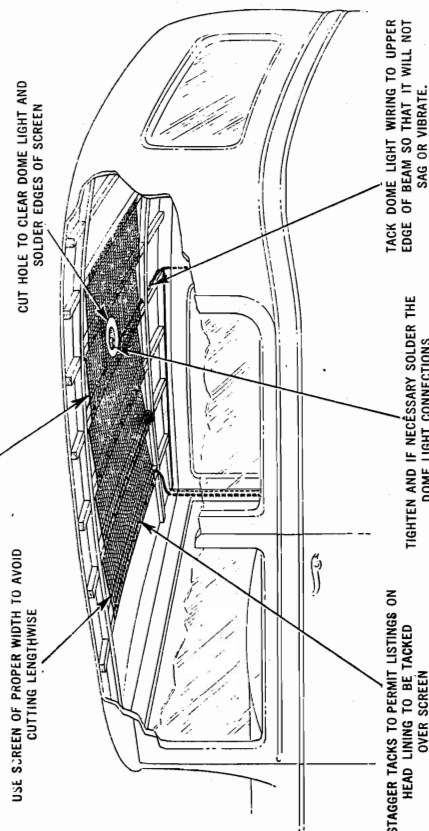

Figure 18—Details of Roof Antenna
4. Again test the antenna from the set end of the lead-in to ground for any possible shorts. If none exist then replace the head lining. Figure 18 shows a typical roof antenna installation.